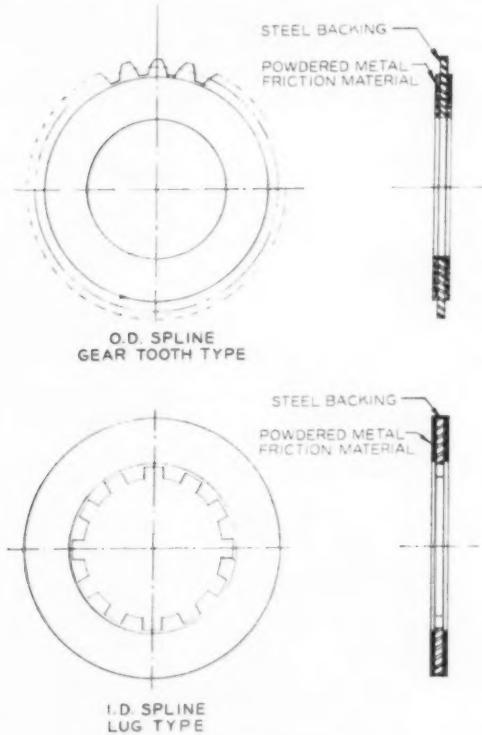

FIG. 9 SPLINED DISKS
**Disk—Spline Type.** The disk-type application, Fig. 9, is popular, probably because it takes full advantage of the design